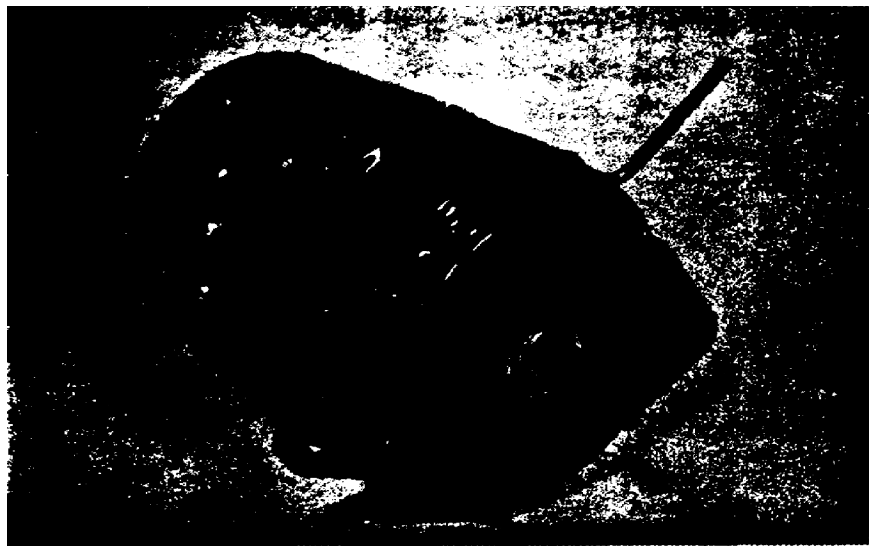

Figure 7. Drive end housing.
- d. Remove six socket-head screws from drive end housing (fig 7).